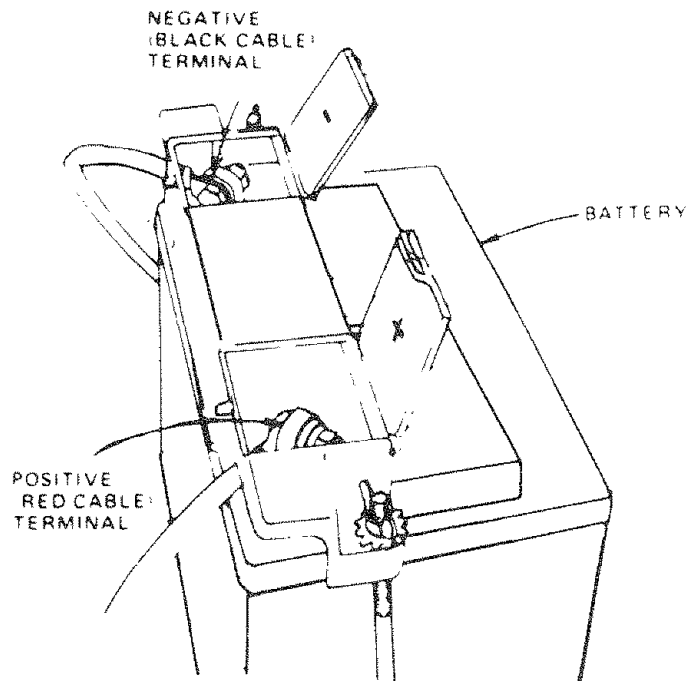

FIGURE 28
- Connect each end of the **RED** jumper cable to the **POSITIVE(+)** terminals of each battery (taking care not to short against chassis). (Fig. 28)